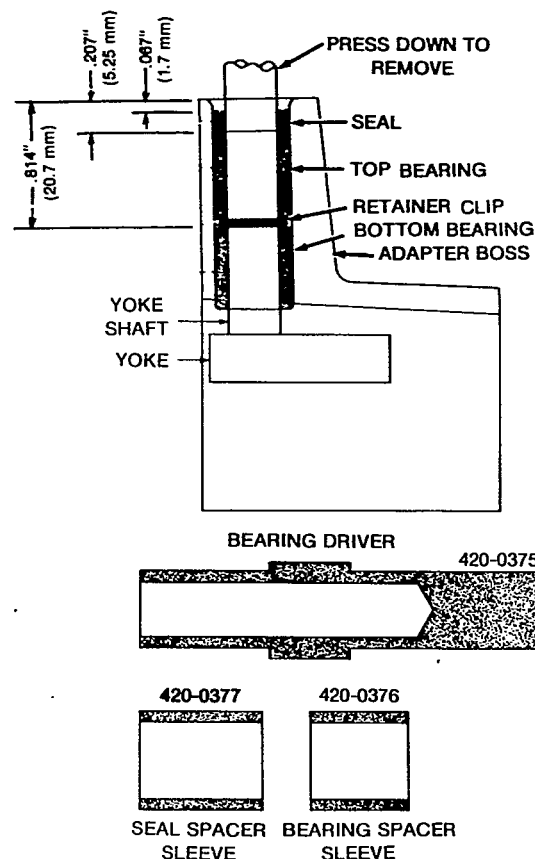

FIGURE 21f. BEARING INSTALLATION AND TOOL PACKAGE (420-0374)
1. Referring to Figure 21f, press shaft and yoke assembly towards center of adapter until shaft and bottom bearing slips out bottom end.